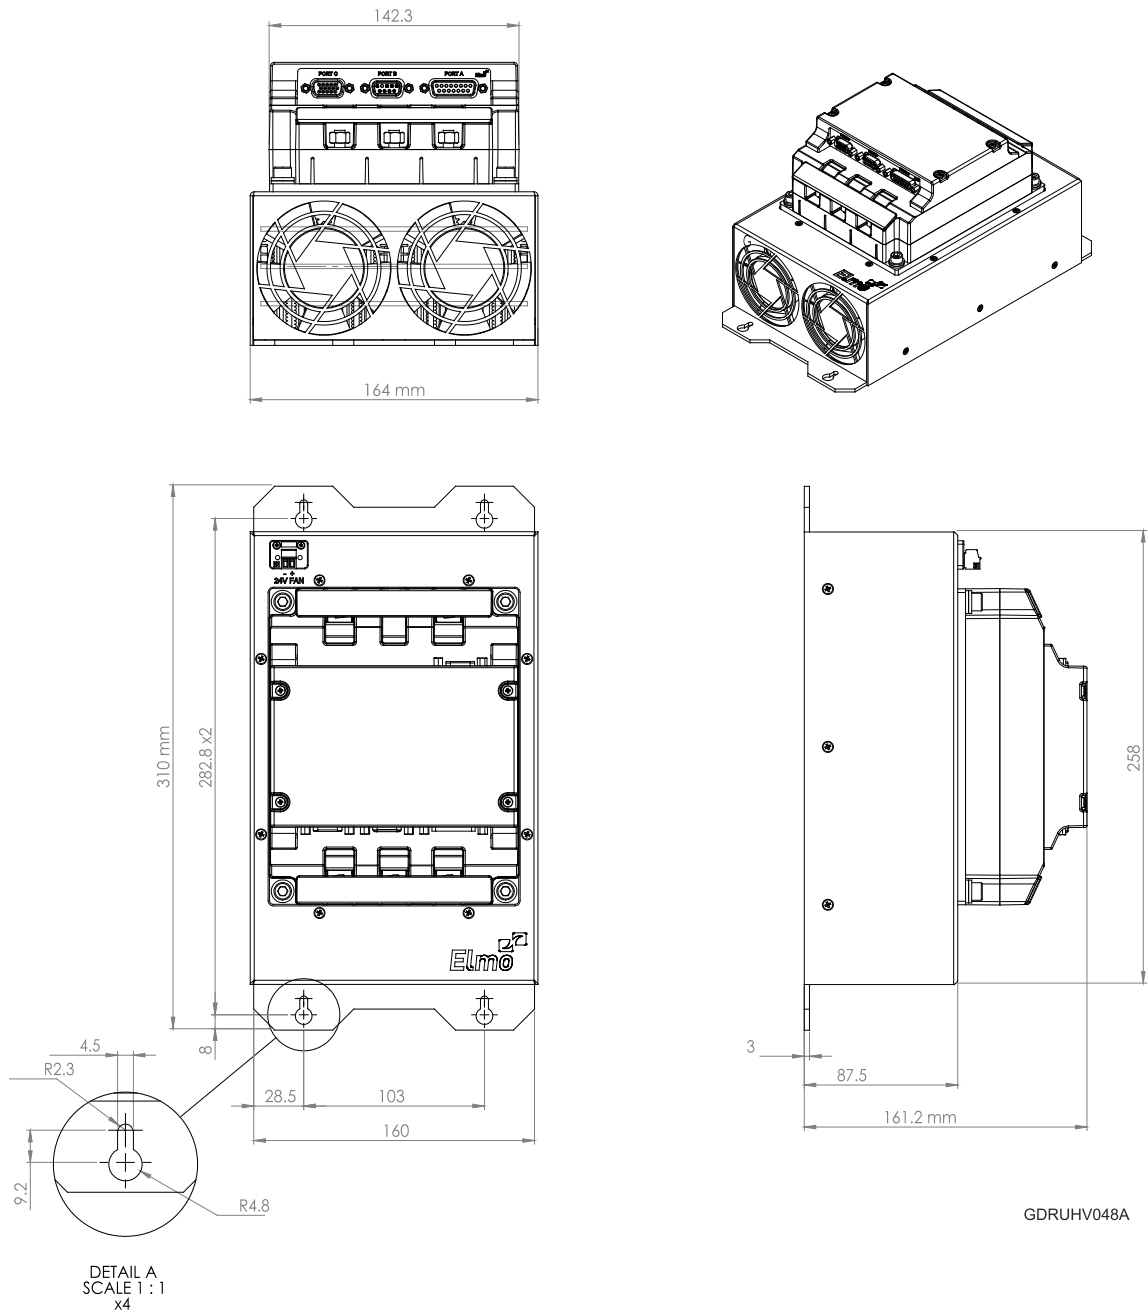

Figure 1: Drum, Heat Sink, and combined Dimensions
7. Install the Drum and Heat Sink to the wall using four screws (max 4.5 mm diameter, refer to Figure 1) and washers.